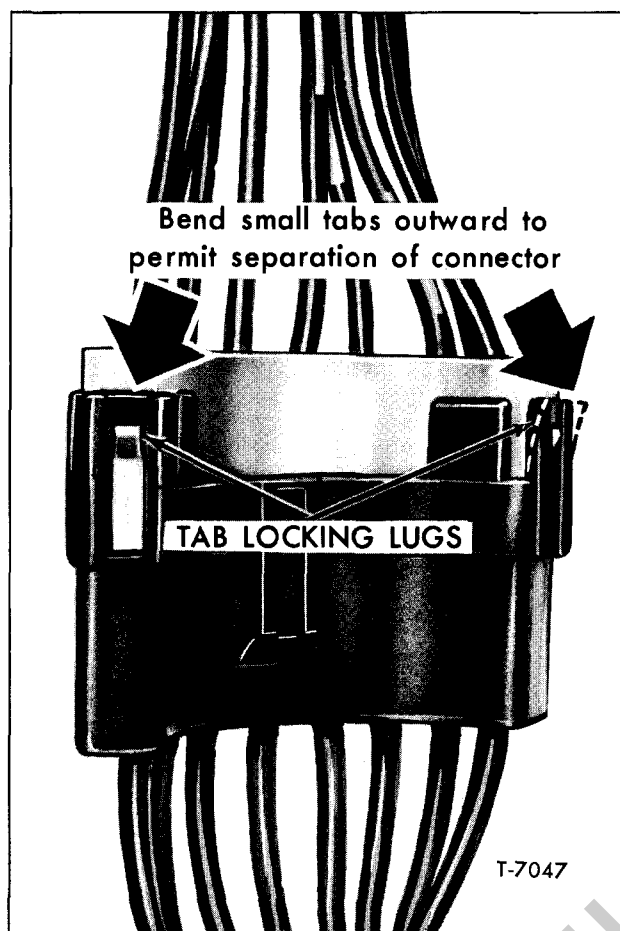

Figure 16—Directional and Hazard Warning Switch Connector
1. Disconnect directional signal and hazard warning lighting connector from under dash (refer to fig. 16).